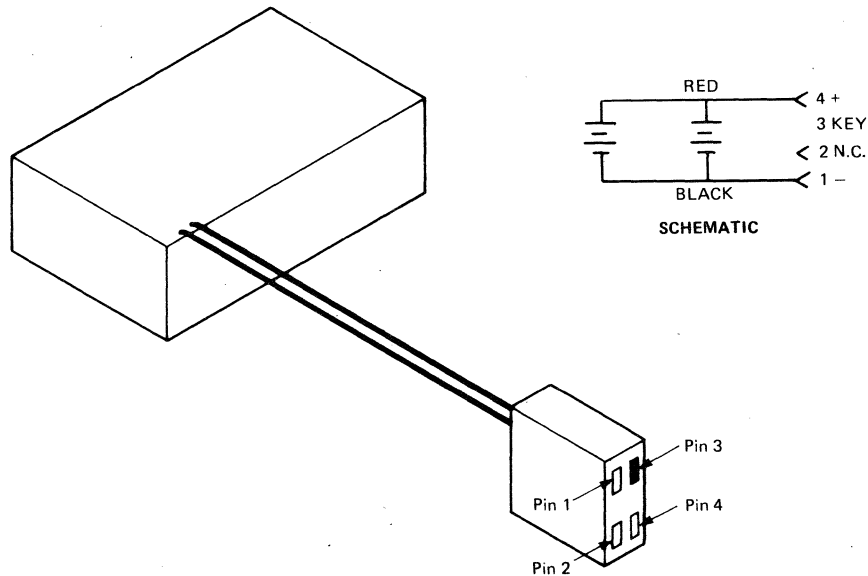

Figure 5-3. Logic PWB Battery Details
- a. Insert a new battery (TI part number 999880-0001) and reconnect the connector at J9 Figure 5-3 illustrates the PWB battery details.